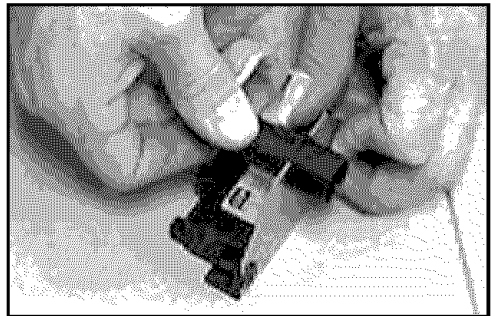

Fig. 2
2. Insert the threaded section of the igniter into the U-shaped cut out of the igniter mounting bracket. (See Fig. 2)